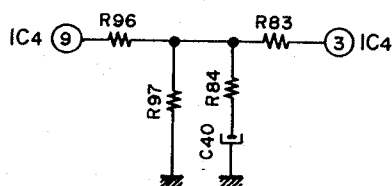

Fig. 18
TR13 → OFF, TR14 Base → 'H' → TR14 → OFF, and then as shown in Fig. 18. At this time, the voltage applied to the IC4 ③ is determined by R96 and R97. In other words, the voltage of R97 is added to IC4 ③. The specified number of rotation at this time is 500rpm.